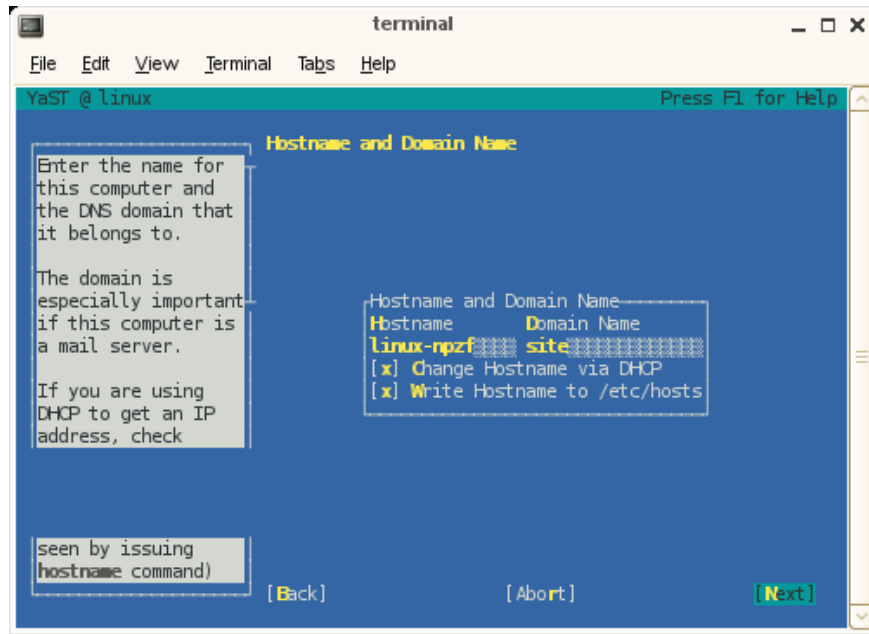

Figure 2-3 Hostname and DomainName Configuration Screen
7. From the **Hostname and Name Server Configuration** screen, as shown in Figure 2-3 on page 38, enter the hostname and domain name of your system in the appropriate fields. Make sure that **Change Hostname via DHCP** is unselected (no x should appear in the box). Click on the **Next** button to continue.